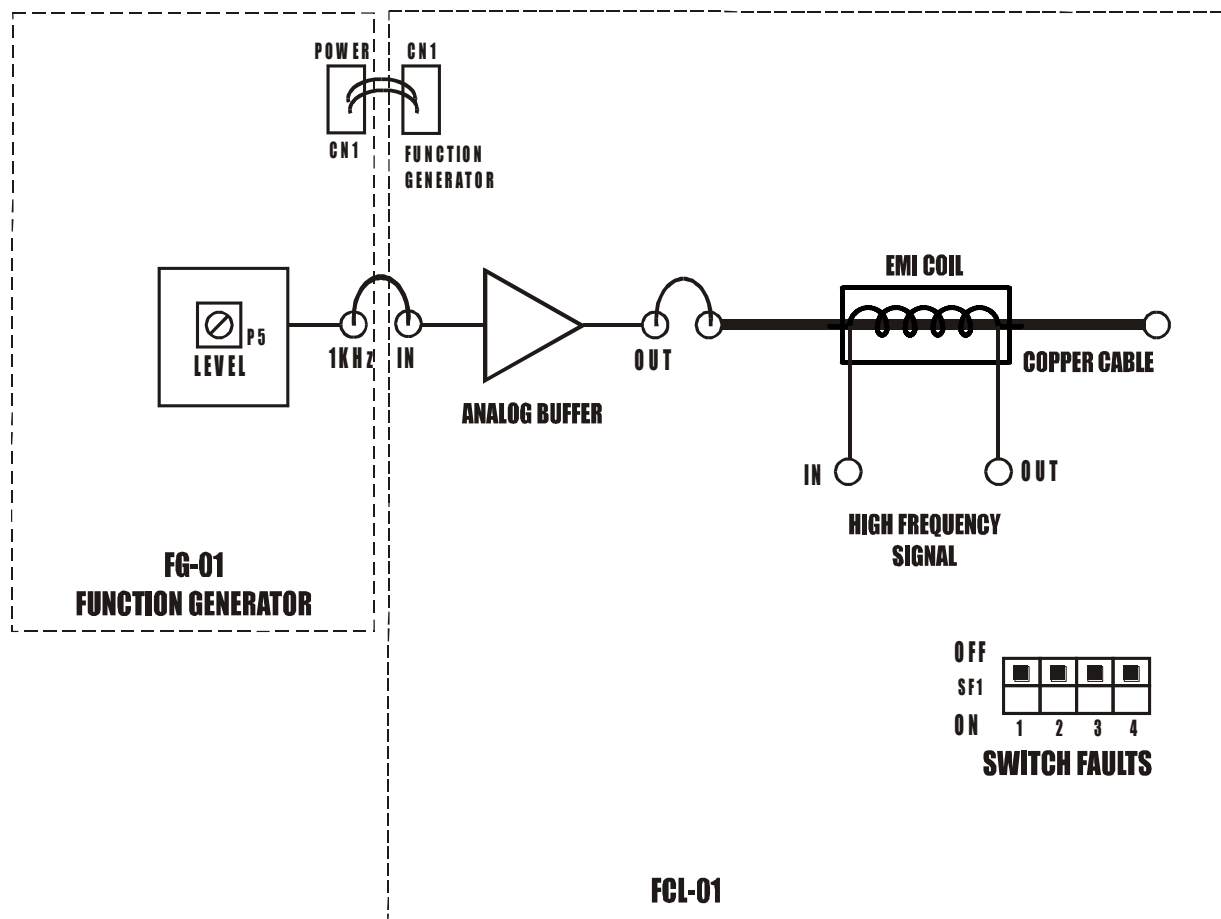

FIG. 13.1 BLOCK DIAGRAM FOR EMI INTERFERENCE ON COPPER CABLE
- Refer to fig 13.1 and make the following connections.